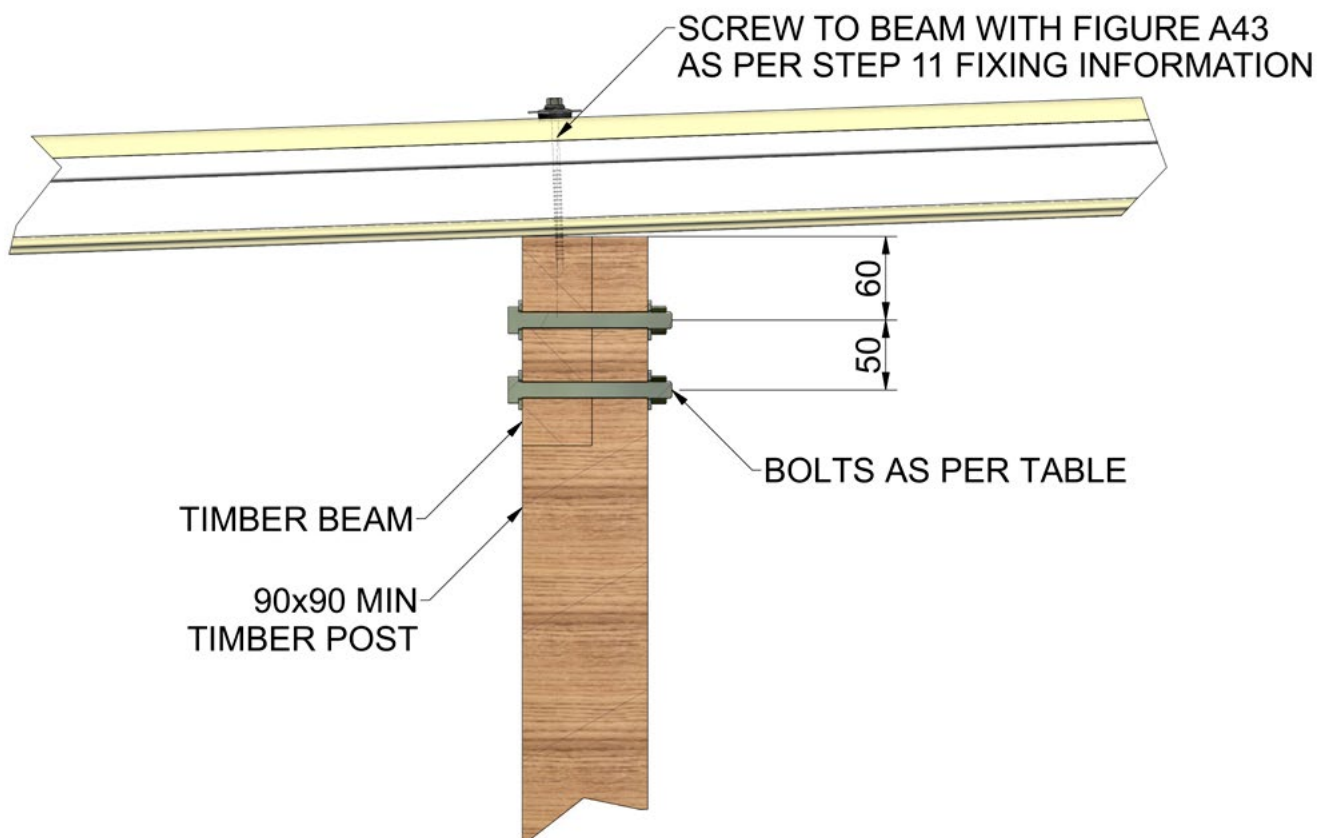

Figure A19
**Timber Post to Timber Beam (see Figure A19)**